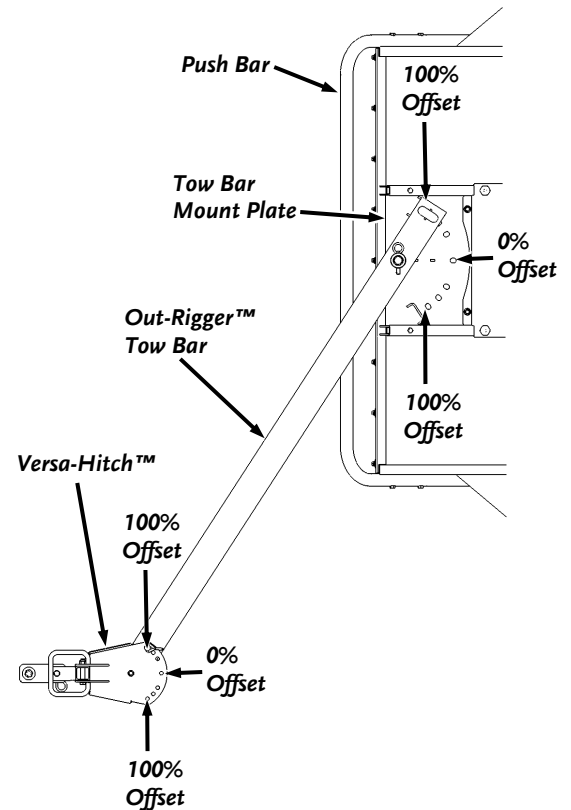

Figure 21
When performing offset mowing, always be sure that the Out-Rigger™ Tow Bar angle setting (**Figure 21**) and the Versa-Hitch™ angle setting match. This allows the tow-behind DR field and brush mower to track parallel to the tow vehicle.
3. Move the Mower, using the Push Bar, until you have approximately aligned the Tow Bar with the desired Offset angle (**Figure 21**).